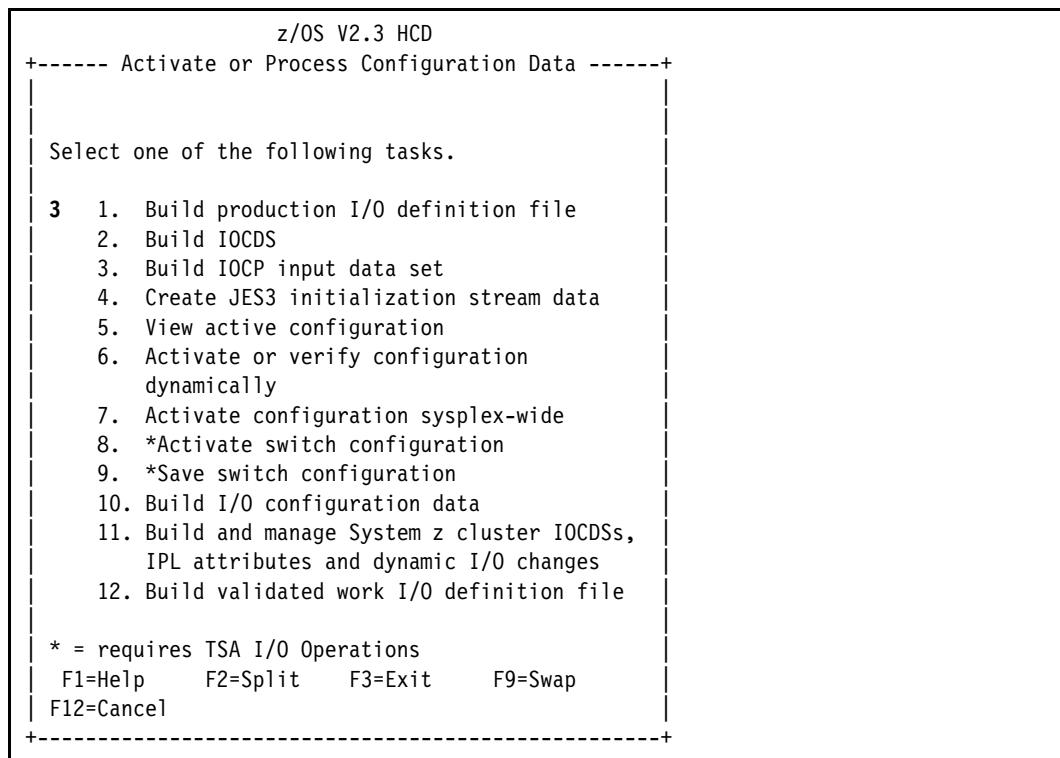

Figure 4-2 Activate or Process Configuration Data: Building IOCP for CETUS
1. Select HCD option **2.3. Build IOCP input data set** and press **Enter** (Figure 4-2).